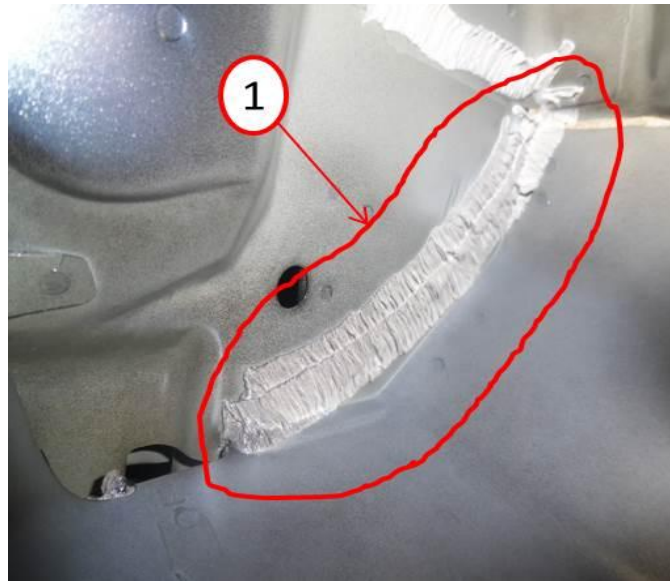

Fig. 10 Seam Sealed Correctly
- b. NO>>> Proper Sealant is applied and no further action needed at this location (Fig. 10). Proceed to Step #13.